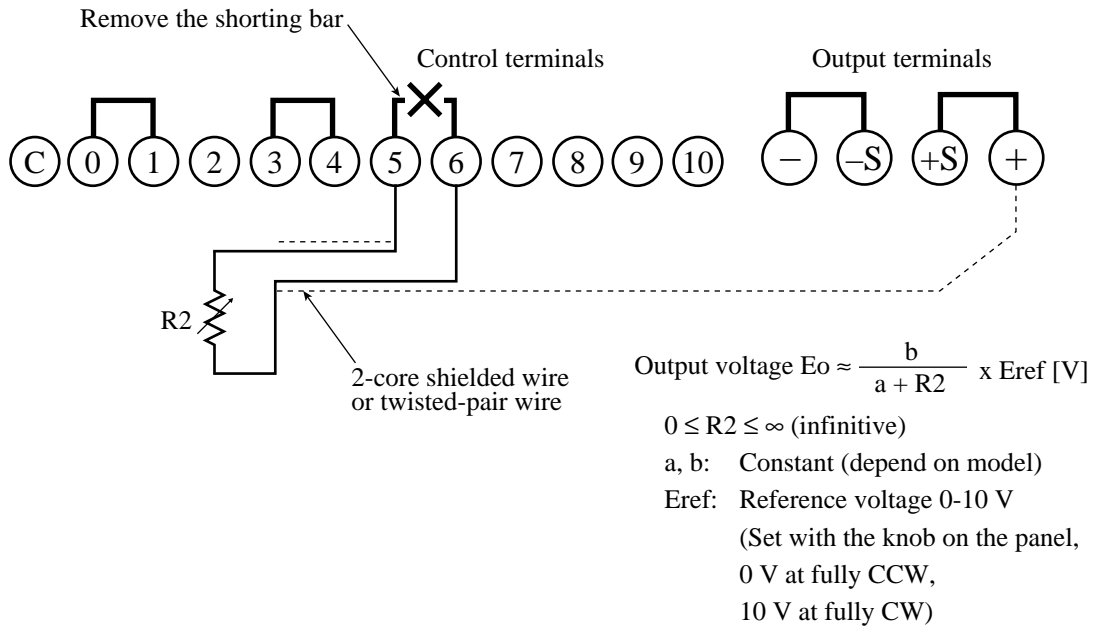

Fig. 4-5 Connections for output voltage control (II) with external resistor
- The output voltage E_o is determined by R_2 and E_{ref} , according to the equation shown in Fig. 4-5. E_{ref} is set with the VOLTAGE setting knob on the front panel. (Use a guard cap (supplied) to disable a setting knob on the panel.)
2. As shown in Fig. 4-5, remove the shorting bar across the control terminals 5 and 6.
3. Connect an external resistor (R2) across the control terminals 5 and 6 as shown in Fig. 4-5.